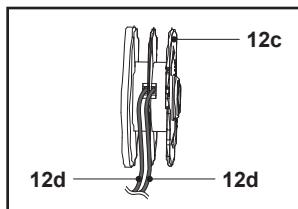

Fig. 25
- Lead one end of the new trimming lines (12d) through the small eyelet on the trimming spool (12c) in direction of the arrows (Fig. 25).